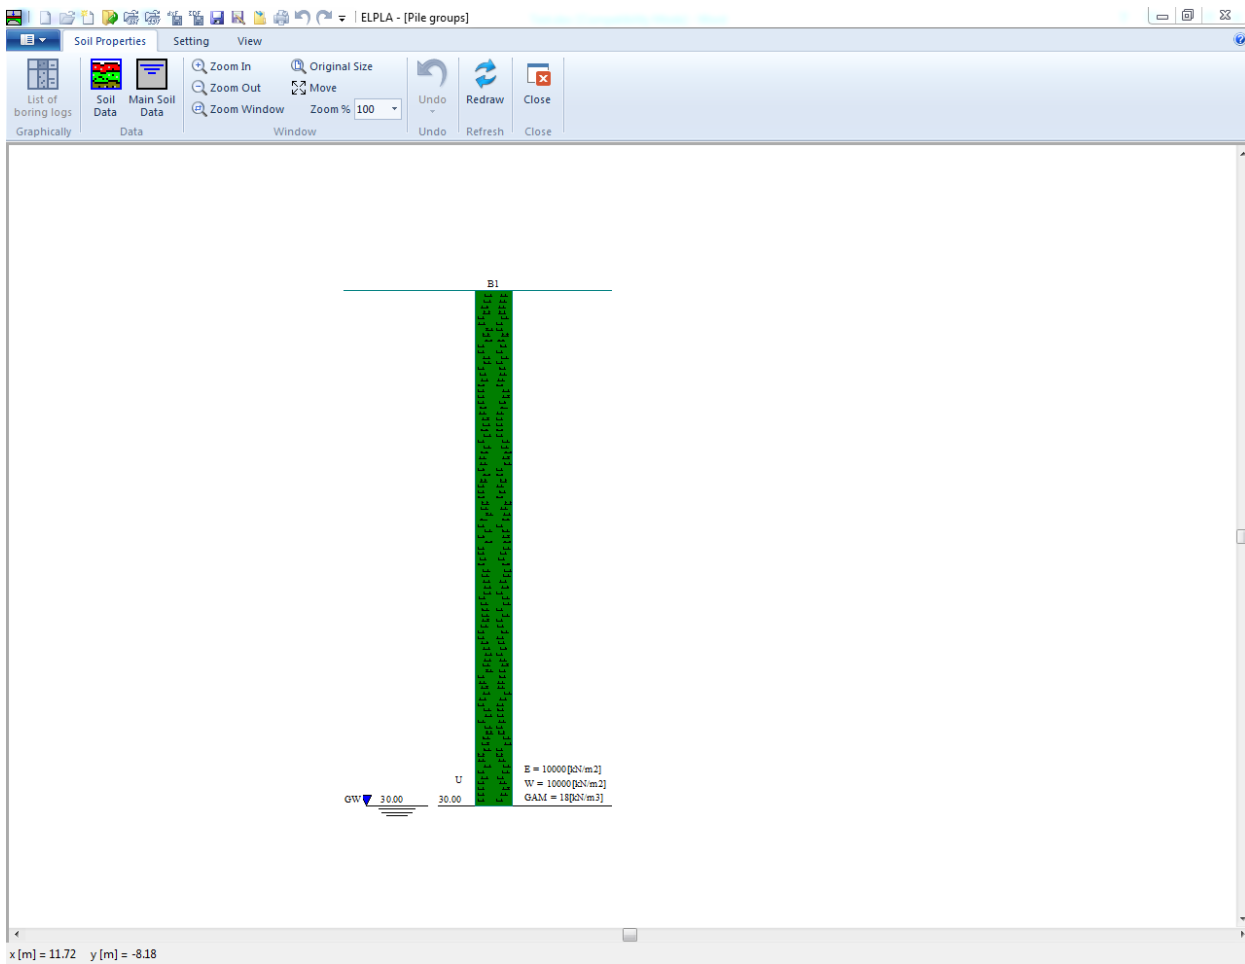

Figure 11.27 Boring log
After the user has completed the definition of all soil properties and parameters, the screen should look like the following Figure 11.27.
- Choose "Save" command from "File" menu in Figure 11.27 to save the data of boring log
- Choose "Close" command from "File" menu in Figure 11.27 to close the "Soil Properties" Window and to return to *ELPLA* main window.